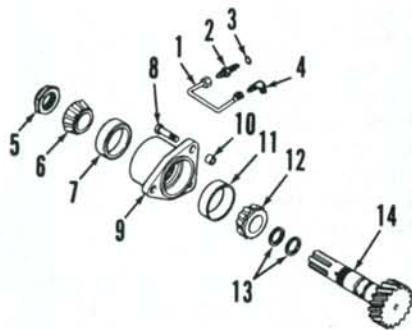

Fig. 17—Exploded view of transfer gearbox input shaft assembly which is located in the torque tube.
16. R&R AND OVERHAUL INPUT SHAFT. To remove the input shaft for the transfer gearbox, first split tractor between the torque tube and transmission case as outlined in paragraph 161. Drive a small chisel under edge of nut (5—Fig. 17) to unstake the nut from slots in shaft. Remove nut from input shaft. Remove the three cap screws (8) and remove input shaft assembly from torque tube.